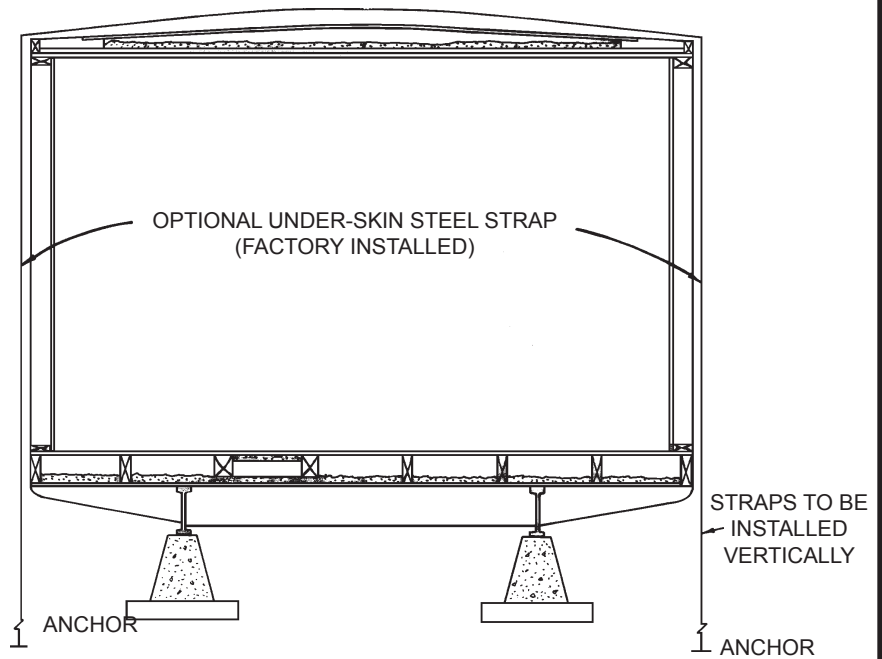

FIG. 7
1. Position and install the ground anchors so that the strap will be vertical after attachment to the anchor. The anchor may be installed slightly beneath the unit to avoid interference with skirting. (See Fig. 7)